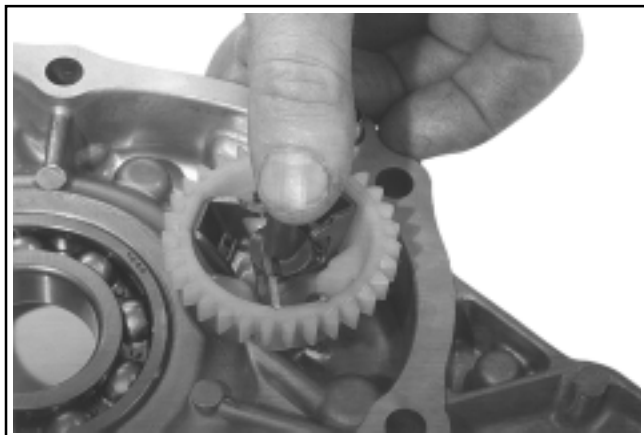

Figure 10-21. Installing Governor Gear Assembly.
3. Raise the gear up on the shaft sufficiently to install the other thrust washer and governor regulating pin under the outer "fingers" of the flyweights. See Figure 10-21.